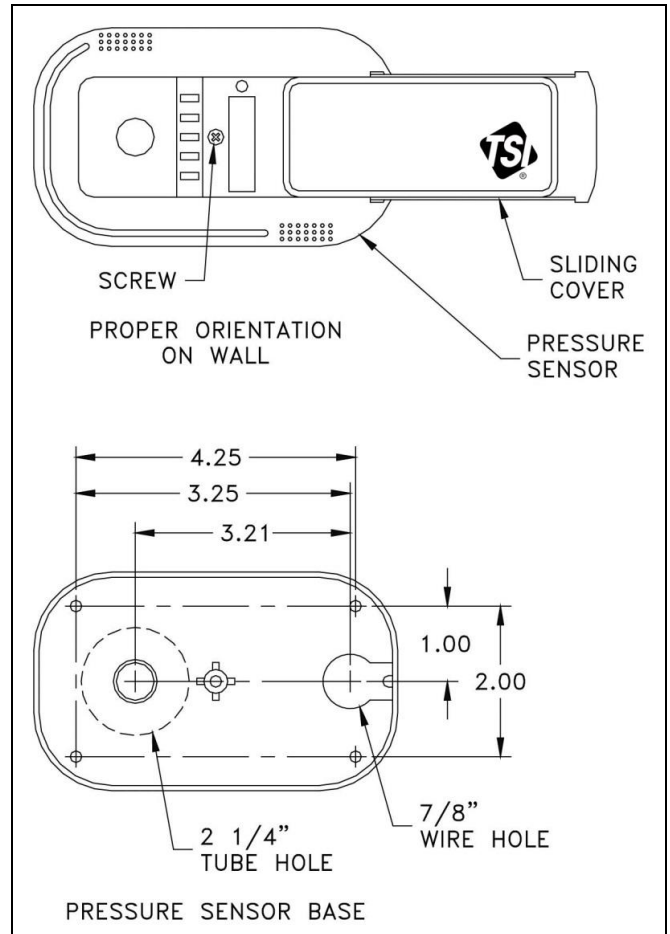

Figure 5: Pressure Sensor Orientation and Mounting Template
2. The pressure sensor must be orientated on the wall as shown in Figure 5. Looking at the mounted sensor, sensor hole is on the left (2¼") and wire hole is on the right.
4. Drill a 7/8-inch hole on the side of the wall that the pressure sensor will be mounted. This hole is for the six-conductor sensor cable. Refer to Figure 5 for a hole mounting pattern.
5. Slide sensor cover to right and remove screw that holds the sensor base to the pressure sensor (Figure 5). Remove pressure sensor and store in a safe place.